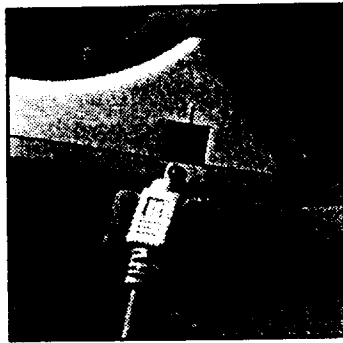

Fig. F.3
- b. Connect the THM to the MOU by plugging the interconnecting cable connector into the mating socket on the MOU (Fig. F.3).